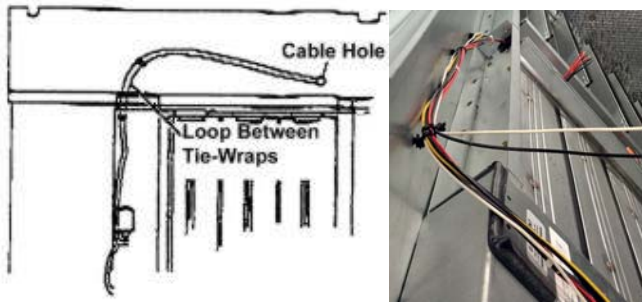

Figure 16 - Routing cables
**Important:** When using the wire harness, insert a loop between the two tie wraps so that the wire harness does not rub on the damper frames during operation. See Figure 16.